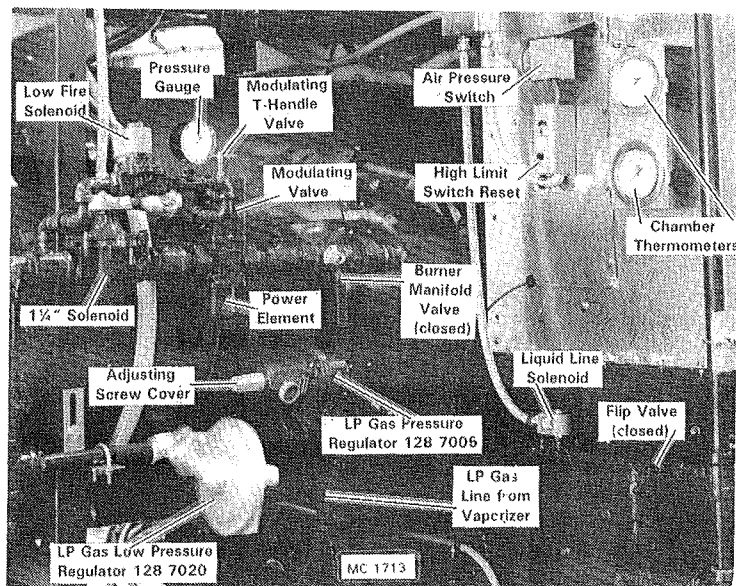

Figure 16
3. Close the gas hand valve for burner(s) (handle 90° to the piping). See Figure 16.
4. Check the modulating valve in gas manifold(s) to be sure the "T" handle has not been turned all the way in to the wide open position. See Figure 16. The "T" handle should be halfway between the closed and fully open position.
3. Be sure high-low switch is in the LOW position. Open the burner gas manifold hand valve (Figure 16) all the way until it stops at preset position. Turn the burner ignition switch to the ON position. After a (15) second delay the gas valve light will be ON and the burner will light.